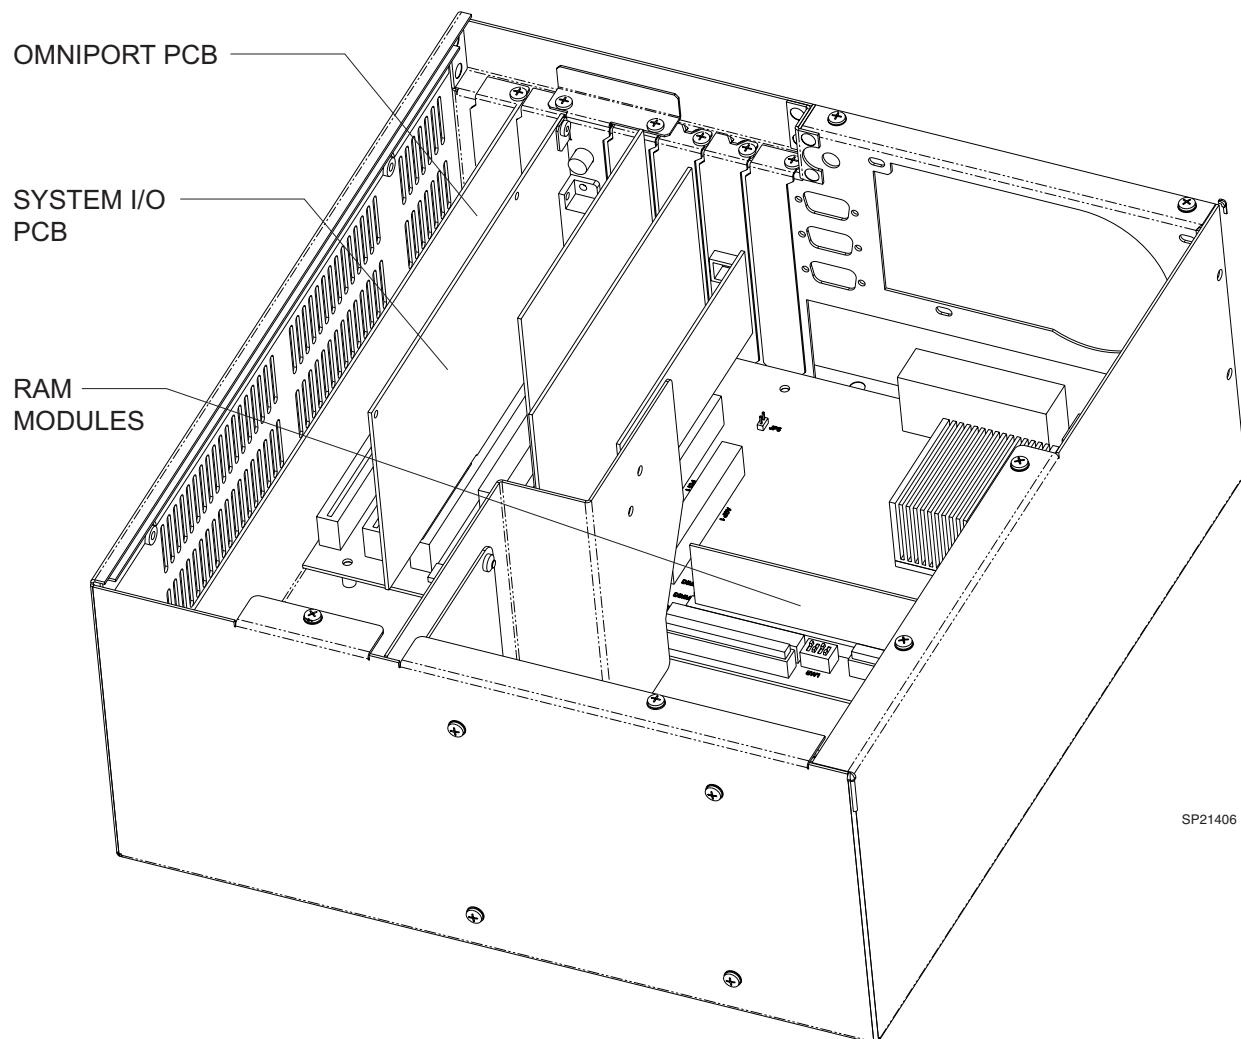

FIGURE 6. WPU Component Identification
- 6.9 Locate the System I/O PCB and carefully pull the System I/O PCB out from the motherboard. See Figure 6.
- 6.17 Locate the Omniport PCB within the WPU. See Figure 6, WPU Component Identification. Verify the PCB is correctly aligned into the WPU's vertical retaining channel (opposite end from the PCB's mounting clamp). Also verify the header connector is completely
- 6.18 Locate the memory (RAM) modules within the WPU. Refer to Figure 6, WPU Component Identification. Verify all RAM modules are perpendicular to the motherboard and the retaining clips at each end of the modules are properly secure. The round section of the clip shall be snapped into place on the component side (right side) of the RAM module to make proper connection. An